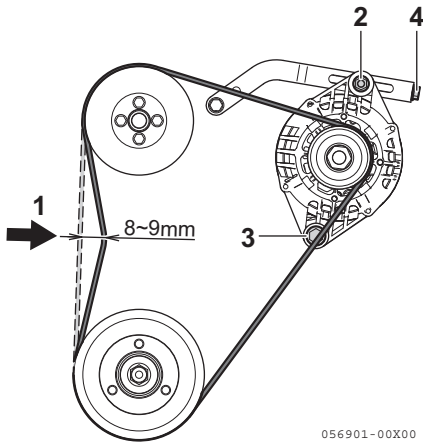

Figure 4
2. Check the belt by pushing on the middle of the belt (**Figure 4, (1)**) with your finger. (Pressed by 100 N)
3. Loosen the 3 bolts of alternator (**Figure 4, (2) (3) (4)**).
4. Screw in the adjusting bolt (**Figure 4, (4)**) and move the alternator to adjust the belt tension properly.